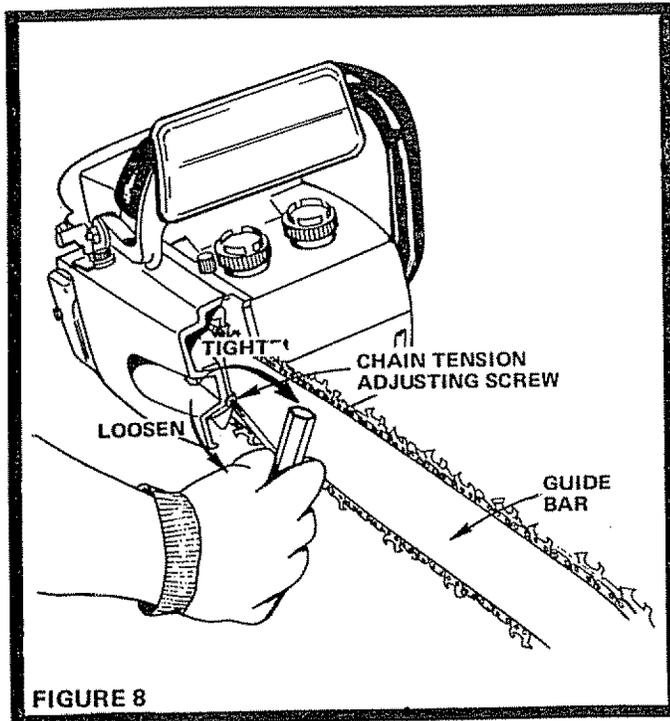

FIGURE 8
1. Hold end of Guide Bar up. Leave Guide Bar Nuts FINGER TIGHT ONLY. Turn Chain Tension Adjusting Screw clockwise until there is no droop or sag in the Chain (Fig. 8).